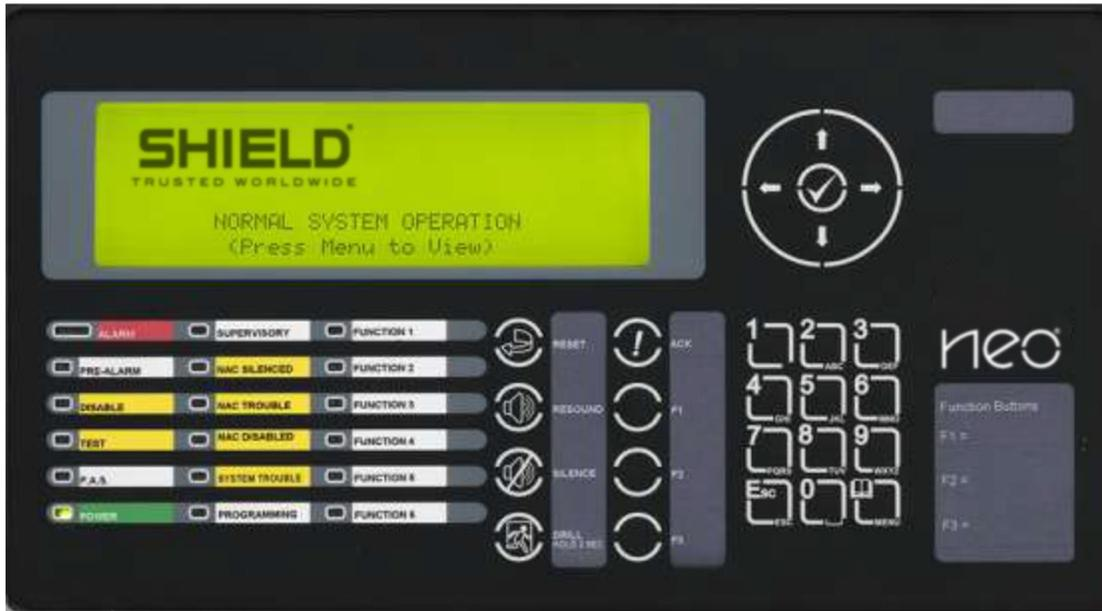
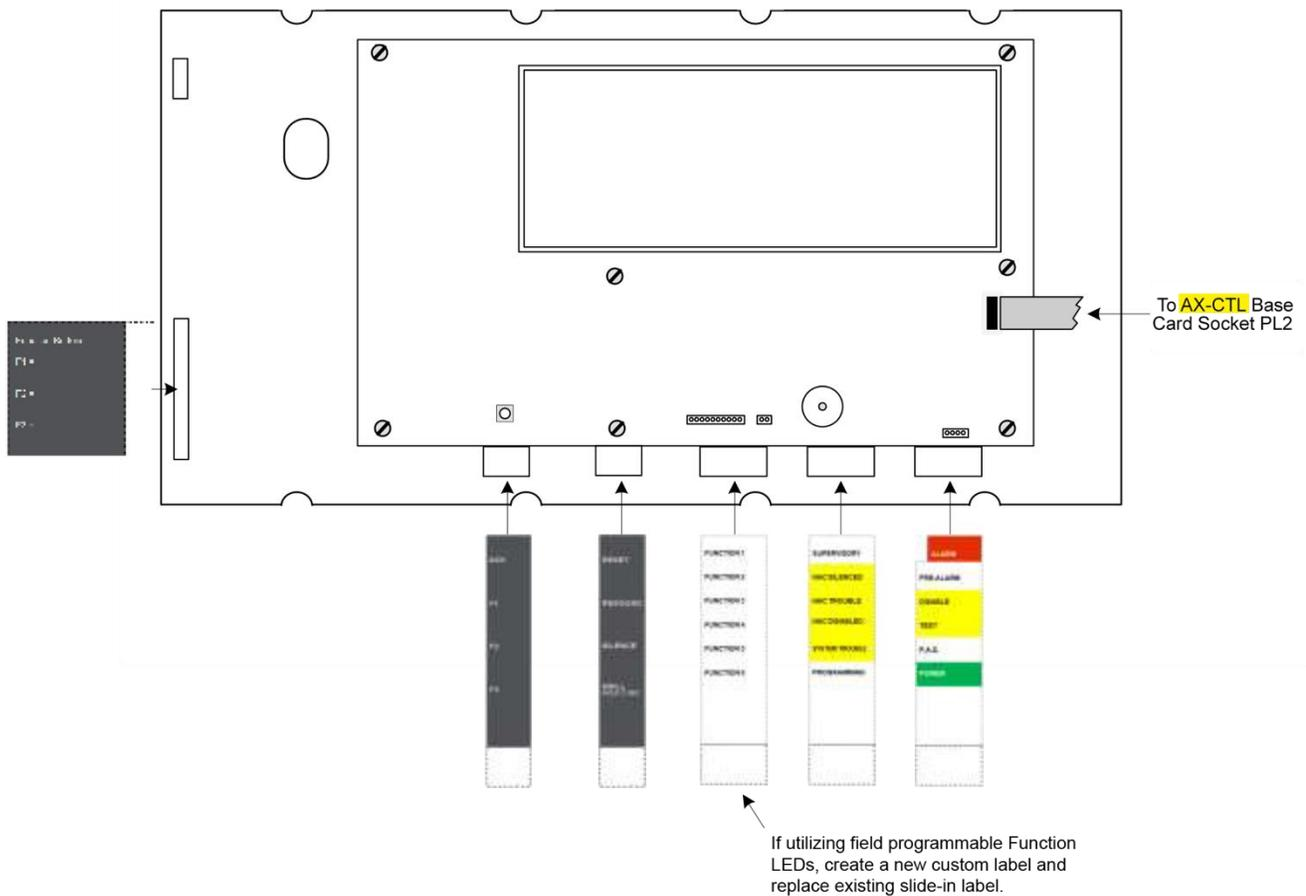

Figure 22 - NX-ACS-DSP Alphanumeric Graphic Display
Figure 23 – Slide-in NX-ACS-DSP Labels
The NX-ACS-DSP alphanumeric graphical display is the colorized human interface for status and control of an NX-FACC-1 command center or NX-CC01-BB/NX-CC02-BB modular command center NX-FACP base card (see figure 22). In addition, the NX-ACS-DSP has three (3) buttons and six (6) LEDs that can be customized to meet specific installation requirements. Customized buttons and LEDs have easy slide-in labels to accommodate the defining of these programmable control and status points (see figure 23).